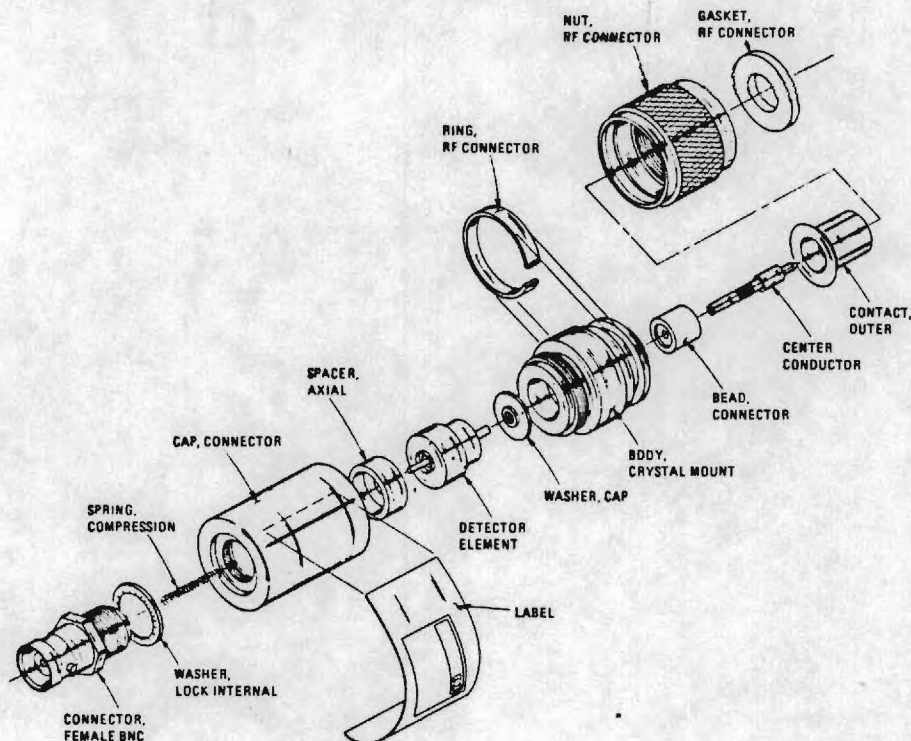

Figure 4. HP Model 423B Crystal Detector Assembly
The special detector element (see Figures 4 and 5) contained in the detector can be damaged in handling, removal, or installation if certain precautions are not taken. The handling precautions which follow should be read before performance of any operation with the detector element when it is out of either the housing or the detector element shipping container.
47. Parts mentioned in the following procedure are identified in Figures 4 and 5.
d. Install the RF washer, axial spacer, and new detector element. Figures 4 and 5 show the proper orientation for the internal components. Insert the RF adapter washer first; then carefully insert the large pin end of the detector element into the center contact inside the detector body. Place the axial spacer over the small pin end of the detector element.